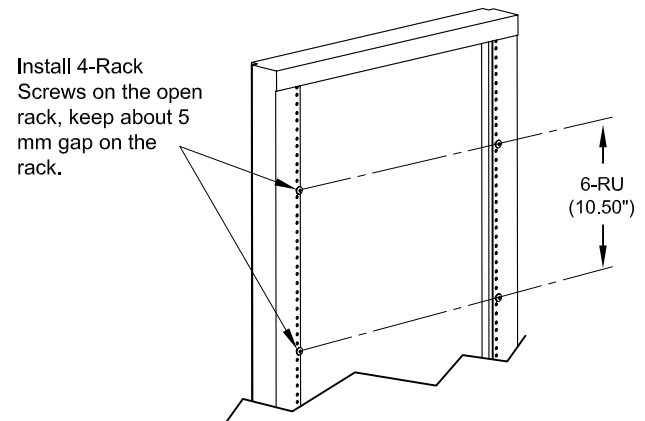

FIG. 4
3. Install Rack Screws (use screw-drive) on the rack, the vertical distance of two screws is 10.5" (or 6 RUs), see FIG 4. Do not tighten the rack screws, remain about 5 mm gap between Screw and rack surface so the Mounting Frame can be inserted and hanged.